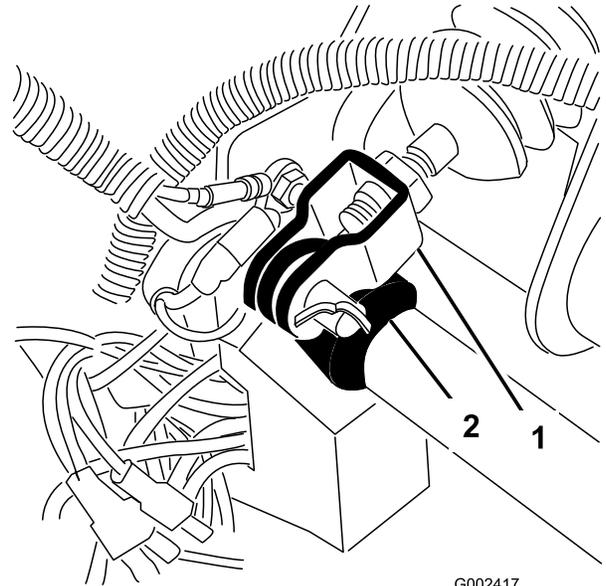

Figure 69
1. Remove the cotter pin and clevis pin securing the master cylinder yoke to the brake pedal pivot (Figure 69).